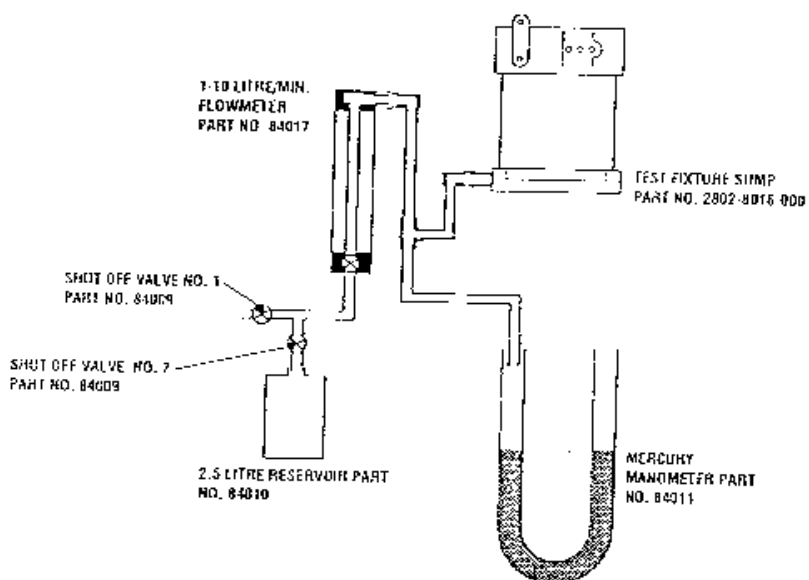

Fig. 3.23 Leak Test - Keyed Filler Assembly
1. Set up the test equipment as shown in Fig. 3.23